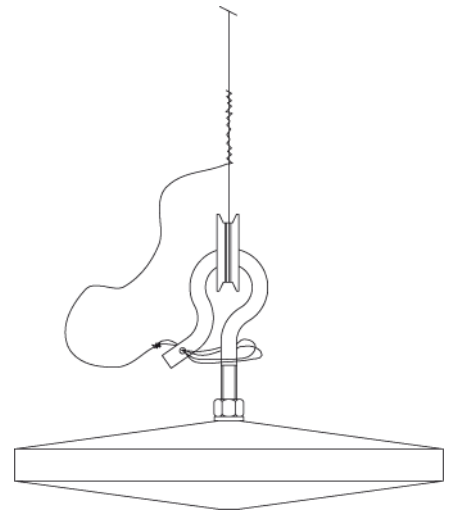

Figure 3.3 Mounting displacer
- Take an extra piece of wire and fasten one end to the measuring wire, pass the other end through the hole in the end of the displacer hook. Secure this end several times around the hook (see figure 3.3).